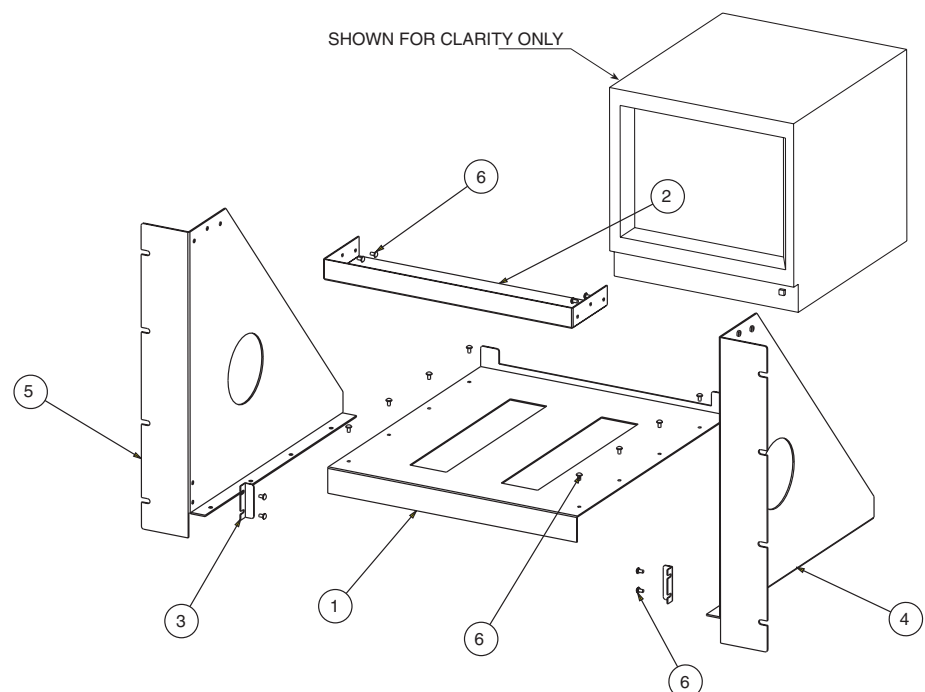

Figure 1. RMA14S Rack Mount Kit Assembly
1. Assemble the rack mount kit's sides and bottom as shown in Figure 1 using the supplied screws. While assembling, install the screws loosely until these components are attached and then finish by tightening all the screws.
6. If using in an overhead or slanted application, install the bracket retainers (item 3) as shown in Figure 1.